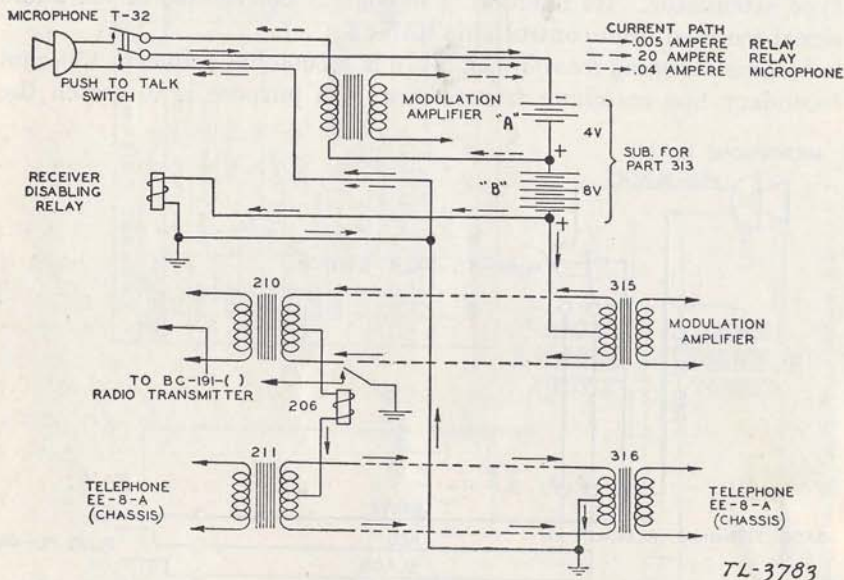

FIGURE 24.—Simplified circuit of remote control equipment RC-47-( ).
a. Remote operation from control unit RM-13-( ).—The source of low voltage used for relay control and microphone excitation in control unit RM-13-( ) is obtained from the bridge type rectifier 313. Figure 24 shows a simplified circuit of the control circuit. The rectifier is replaced by the batteries "A" and "B" for circuit simplification. When the microphone switch on microphone T-32 or key J-47 is depressed, the negative side of the low-voltage supply is grounded, completing the following three circuits: